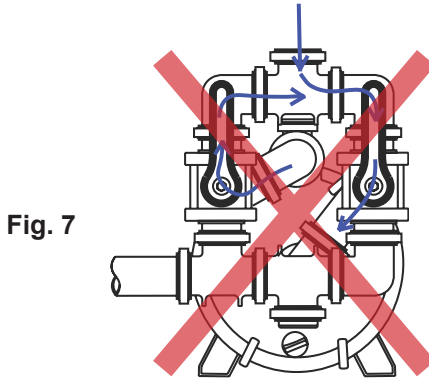

Fig. 7
- Both FLOW valve handles are pointed upwards (Fig. 7).
Never allow the tank water level to fall below a level of one inch above the outlet pipe of the tank (Fig. 7). If the tank fully drains, pump damage may occur from lack of water and you will only be able to refill the tank from a pressurized water source.